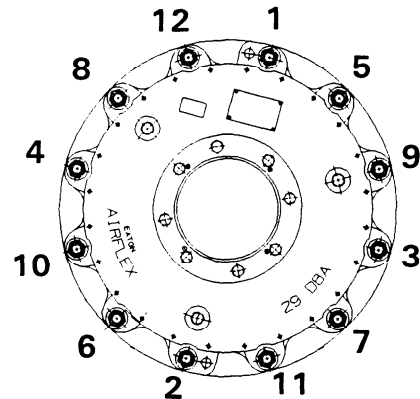

Fig.7
2.4.19 Assemble the washers (44) and locknuts (9) onto the studs. While supporting the weight of the pressure plate, spring housing and end plate assembly, tighten the locknuts ONE TURN AT A TIME and in a crosswise pattern, until the spring housing is seated against the clamp tubes. Torque the locknuts using the sequence shown in Figure 7 to 500 ft.-lb., lubed.